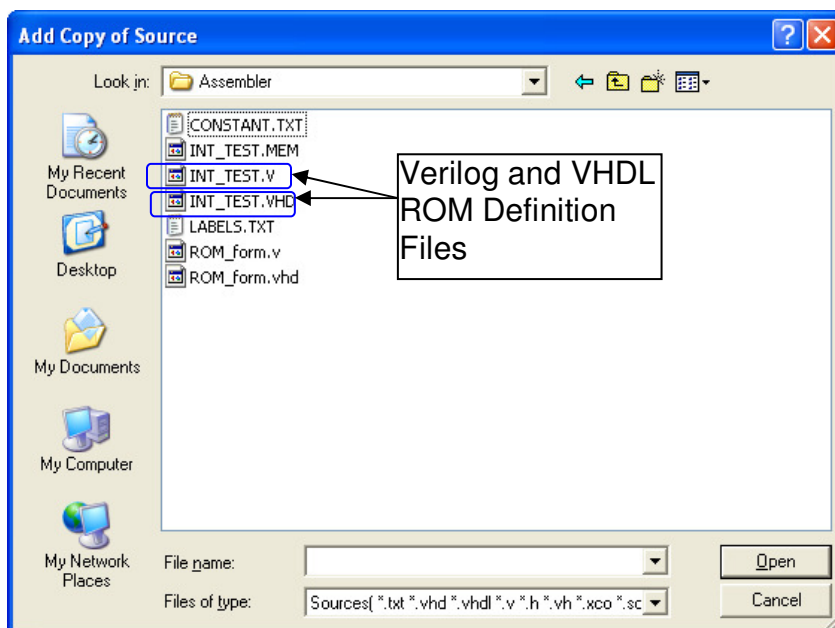

Figure 7. VHDL and Verilog ROM Definition Files
- 3-1-6.** Add the Verilog or VHDL ROM definition file to the project. Click **Project → Add Copy of Source** or click on  from the side button window and select either **int_test.vhd** or **int_test.v** file (**Figure 7**).